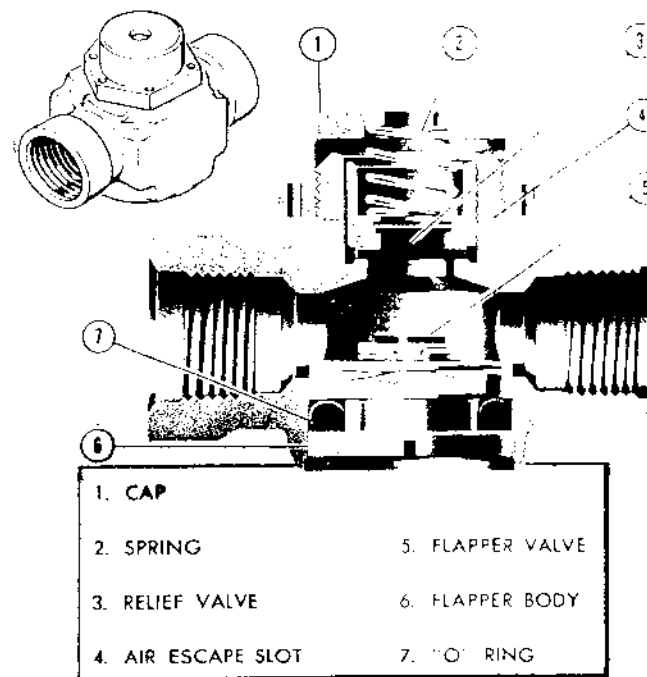

Figure 258 — Sniffle Valve
(4) SNIFFLE VALVE. (See figure 258.)